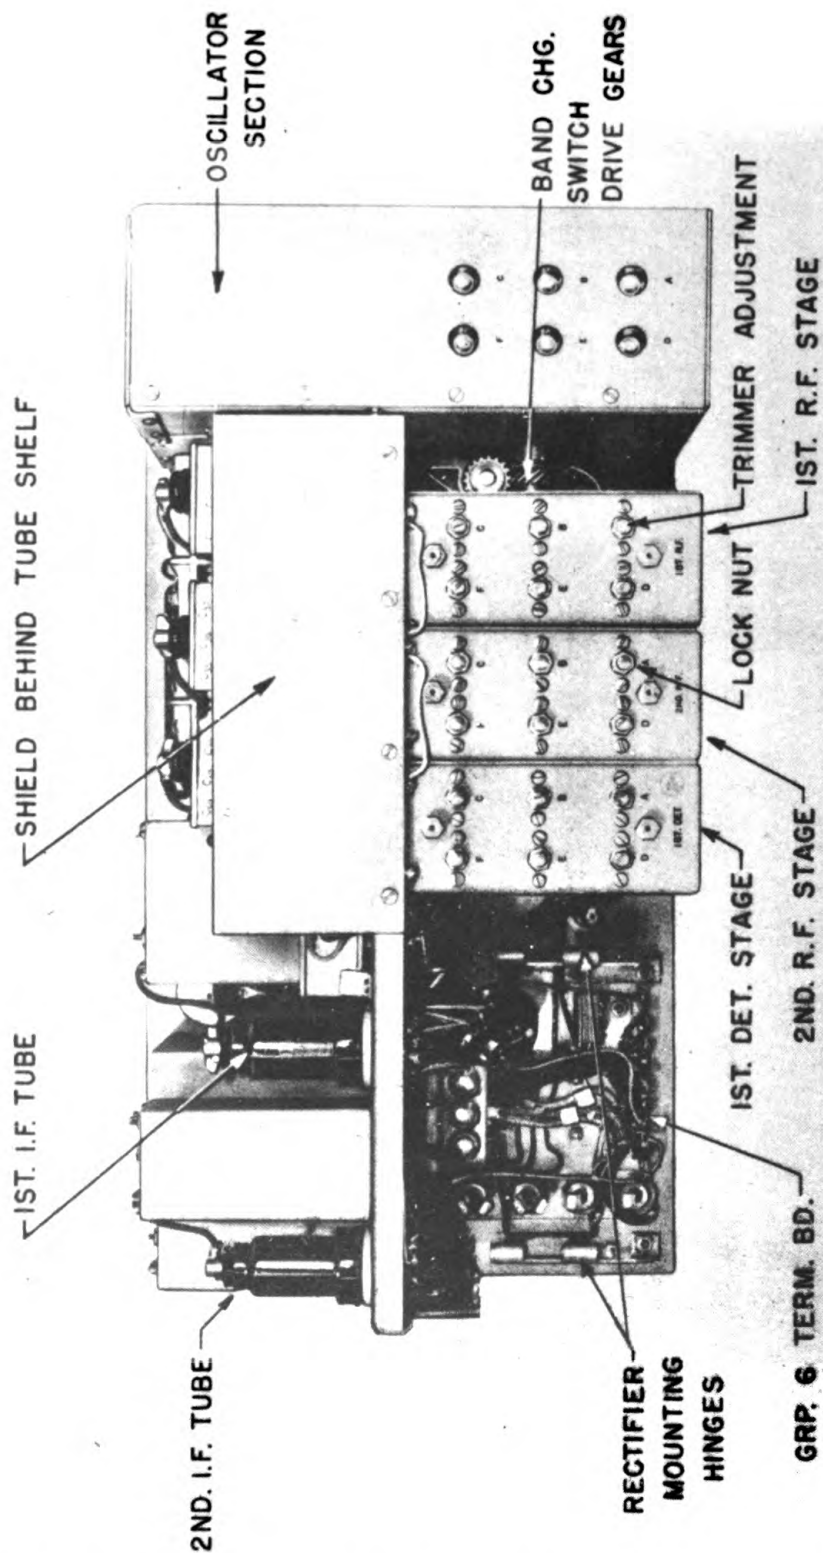

Figure 34.—Chassis layout, high-frequency models, shields and power supply removed, rear view.
d. *Group 6 Terminal Board (Receivers BC-312-(\*), and BC-314-(\*)).— (See figs. 34 and 35).—*
e. *Group 6 Terminal Board (Receivers BC-342-(\*), and BC-344-(\*)).— (See figs. 34 and 35).—*
f. *Group 6 Terminal Board (Receiver BC-312-(\*)X).*—See fig. 34).—